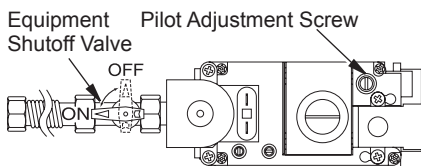

Figure 43 - Turning Equipment Shutoff Valve to the OFF Position
5. Turn equipment shutoff valve clockwise to the OFF position (see Figure 43). Do not force.
6. Wait five (5) minutes to clear out any gas. Then smell for gas, including near the floor. If you smell gas, STOP! Follow "B" in the safety information in column 1. If you don't smell gas, go to the next step.
- Turn adjustment screw marked PILOT clockwise to decrease or counterclockwise to increase flame to proper size (see Figure 43, page 28). Do not remove adjustment screw.